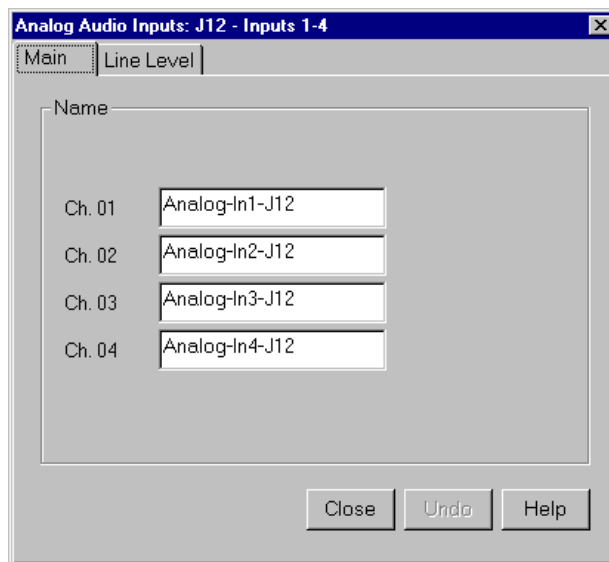

Figure 32. Analog Audio Input dialog box, Main tab
1. Expand **Audio Input**, and then click one of the Analog Channels. The Analog Audio Input dialog box appears (Figure 32). The channel numbers on the left refer to the physical input connectors on the audio input box. **Ch. 01** refers to the first connector, and **Ch. 02** refers to the second connector, and so forth.